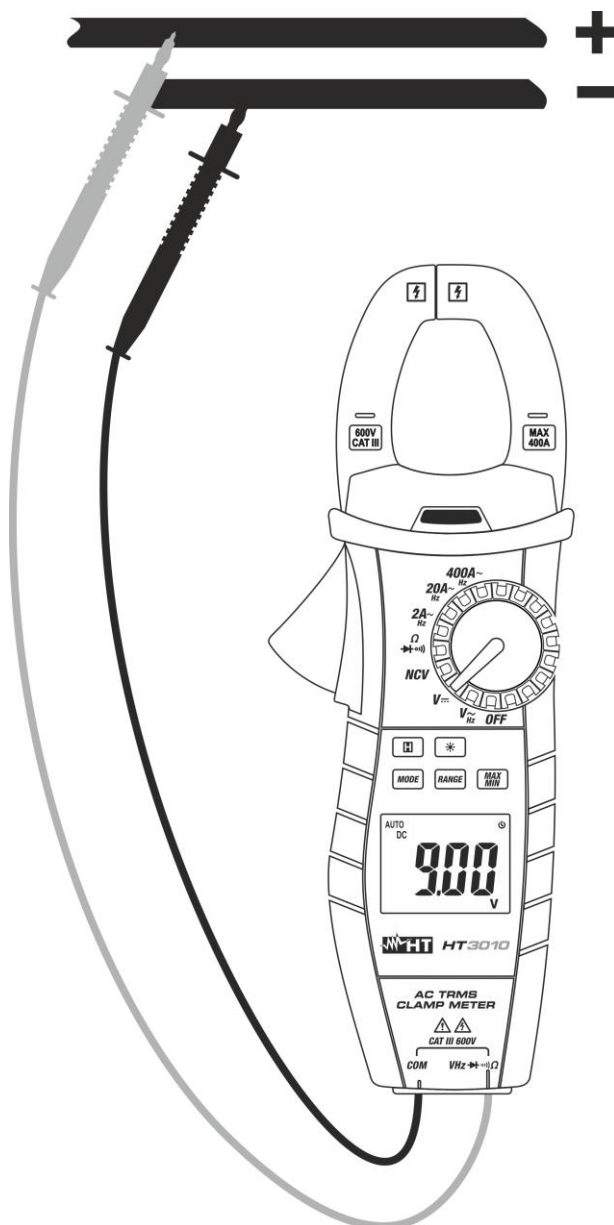

Fig. 3: Use of the instrument for DC Voltage measurement
3. Position the test leads in the desired points of the circuit to be measured (see Fig. 3). The display shows the value of voltage.
5. When symbol **"-"** appears on the instrument's display, it means that voltage has the opposite direction with respect to the connection in Fig. 3